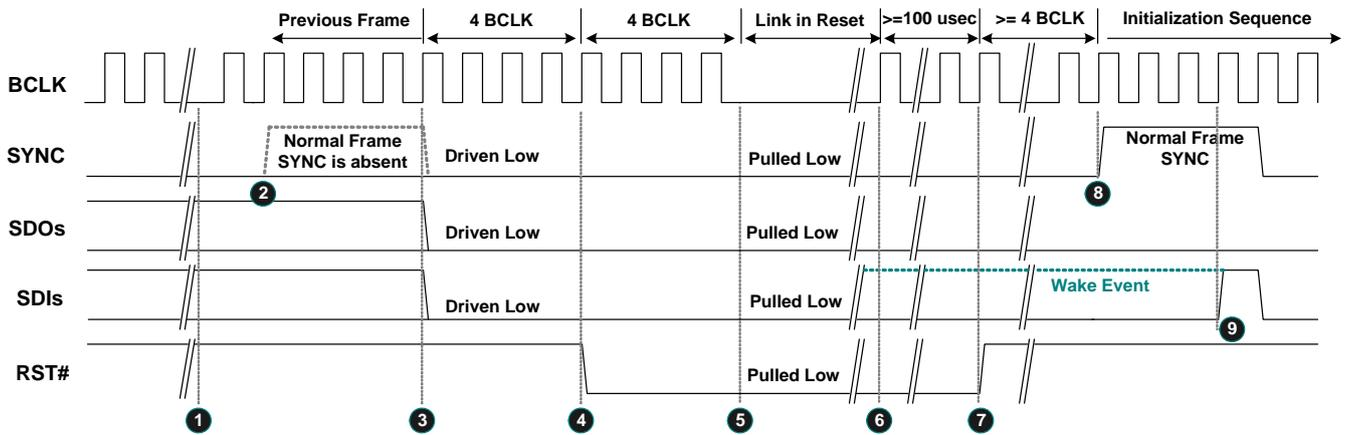

Figure 13. Link Reset Timing
3. Software initiates power management sequences. Figure 13, shows the ‘Link Reset’ timing including the ‘Enter’ sequence (❶~❷) and ‘Exit’ sequence (❸~❹)